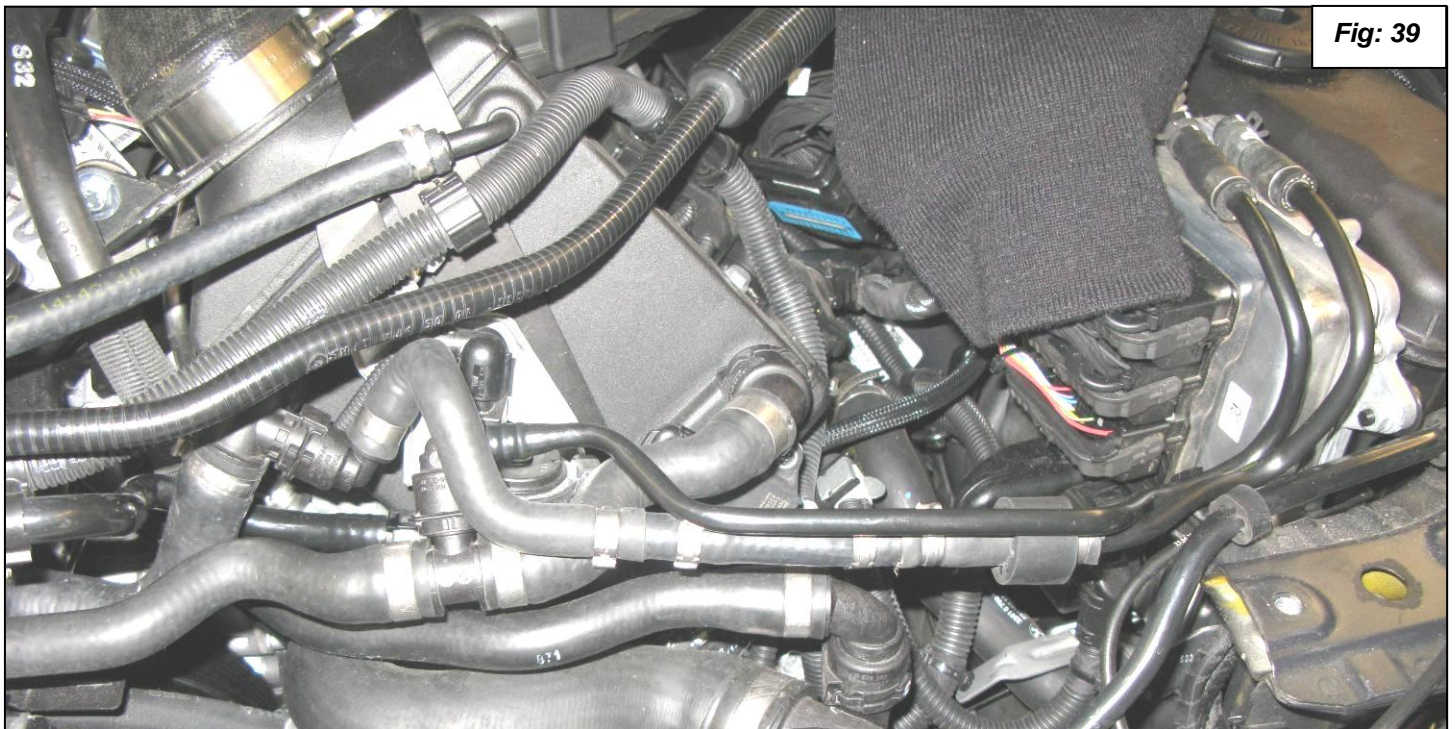

Fig: 39
29. Pull the extended computer hose assembly down under the other computer hose as shown in figure 39.